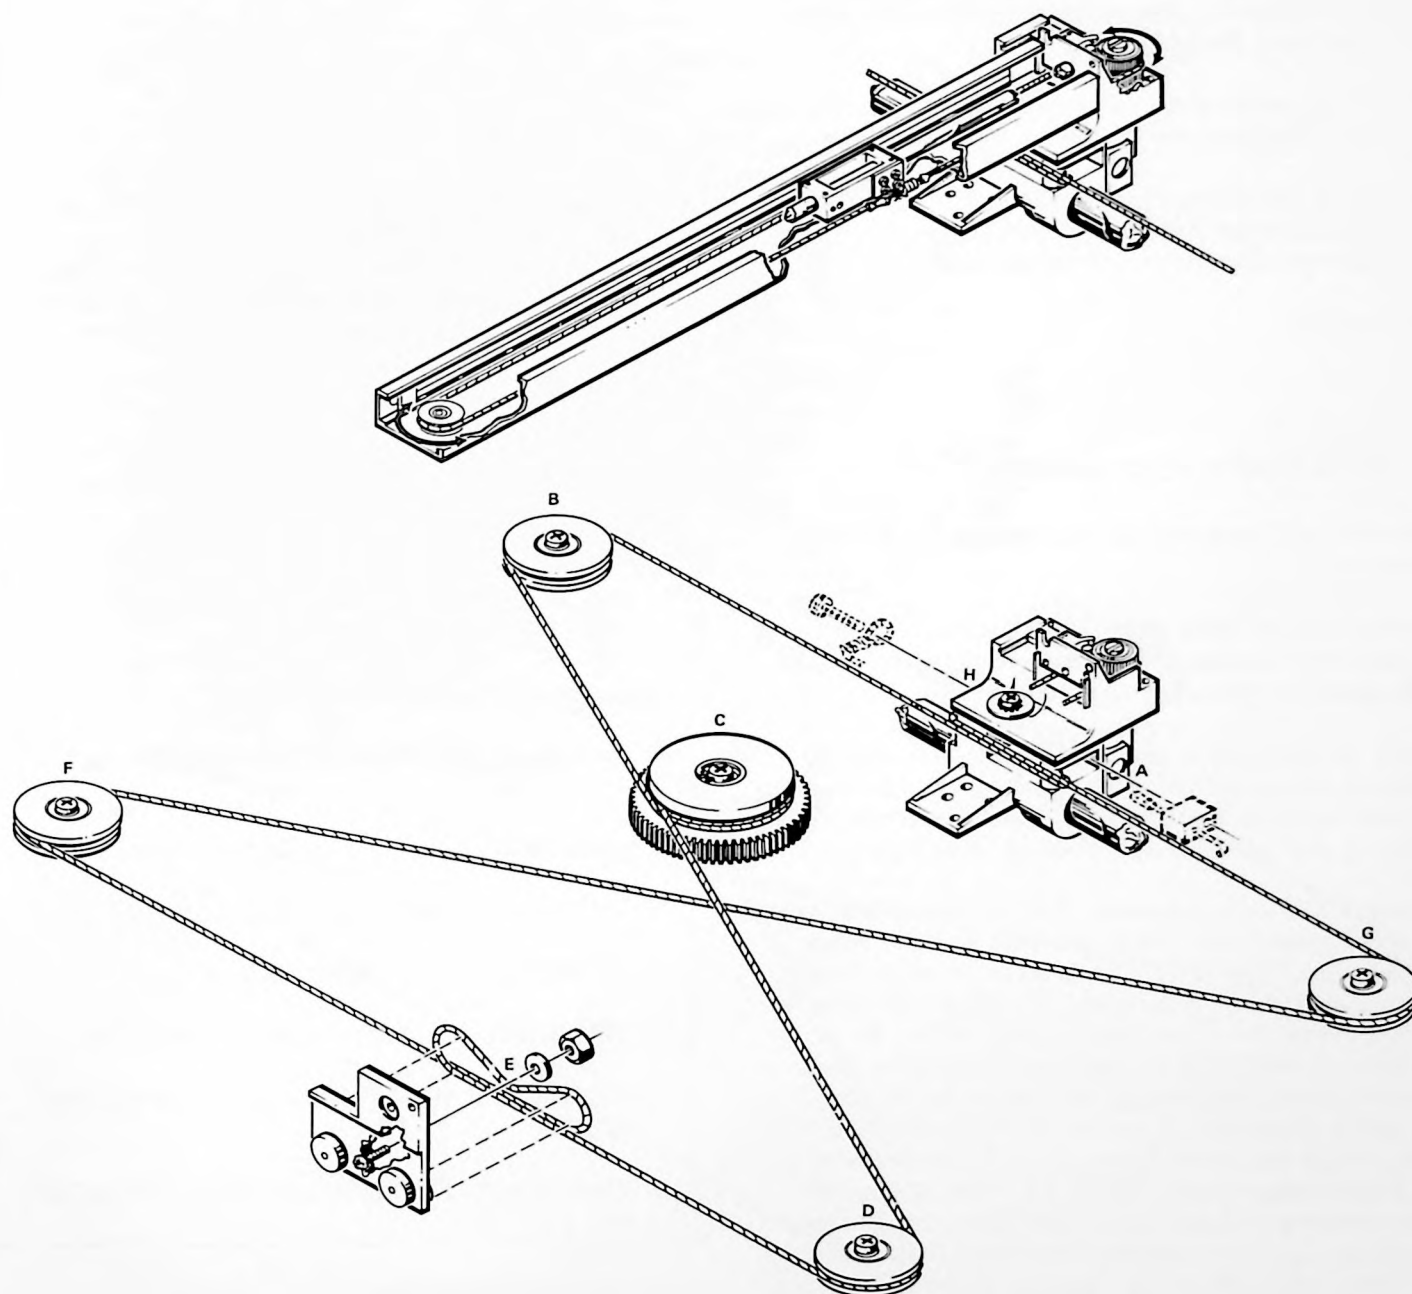

Figure 5-10. X and Y-Axis Restringing, 7044B Model
b. Install new drive cable assembly consisting of cable spring, cable crimps, cable mounting bracket, and seven-strand stainless steel cable as follows (see Figure 5-10):
d. Using X-axis cable assembly, Part Number 07040-60914 attach loop around screw (Point A). See Figure 5-10. Place screw in slider block. Route cable in clockwise direction around pulley (Point B) to drive chain pulley (Point C). Loop in clockwise direction around pulley two times. Proceed to left corner pulley (Point D). Loop in clockwise direction around carriage arm block (Point E) going on outside of pulley to right corner pulley (Point F). Pass cable under previous stringing to loop around last pulley in left upper corner (Point G). The stringing terminates at other end of slider block (Point H).